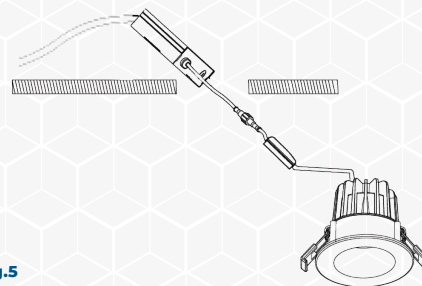

Fig.5
2. Connect the fixture to the hardwire box by inserting and twisting the male / female connectors. (see Fig.5)